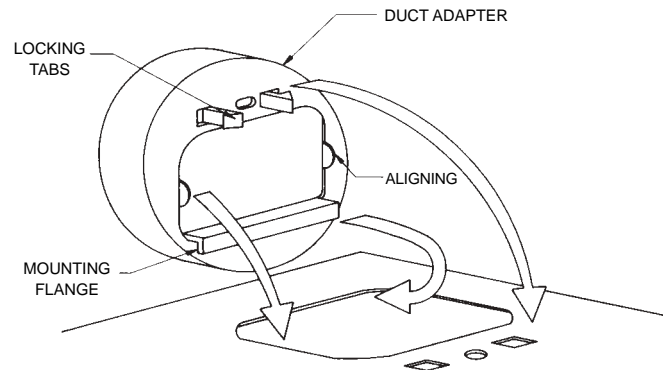

FIG. 3
2. If the duct adapter is attached, disregard this note. Attach duct adapter to housing by first hooking mounting flange over edge of air discharge opening. Pivot duct adapter insuring (2) aligning tabs are inside opening and align (2) locking tabs with small rectangular holes. Press firmly into holes to lock. See Fig. 3. Remove tape securing damper.
4. If DUCT ADAPTER is already attached to housing, disregard Item #4. If not proceed as follows! Attach DUCT ADAPTER to housing by first hooking mounting flange over edge of air discharge opening. Pivot duct adapter insuring (2) aligning tabs are inside opening and align (2) locking tabs with small rectangular holes. Press tabs firmly into holes to lock. See Fig. 3. Remove tape securing damper.